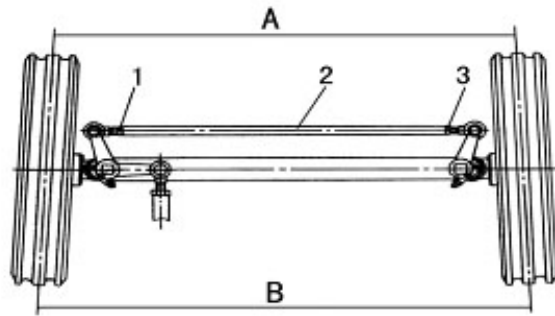

Fig.6-5 Adjustment on front wheel toe-in
in time. Toe-in adjusting should follow the following steps(fig.6-5):
- ① Park the tractor on the ground and put the front wheels in beeline running direction.
- ② Measure the distance A and B between front side and back side of two wheels at the height of front wheel center.
- ③ Loose the lock nuts 1 and 3 at the two sides of drawbar 2, rotate the drawbar until $B - A = 4 \sim 10$ mm, and then tighten drawbar 2 with nut 1 and 3 (fig..6-5).